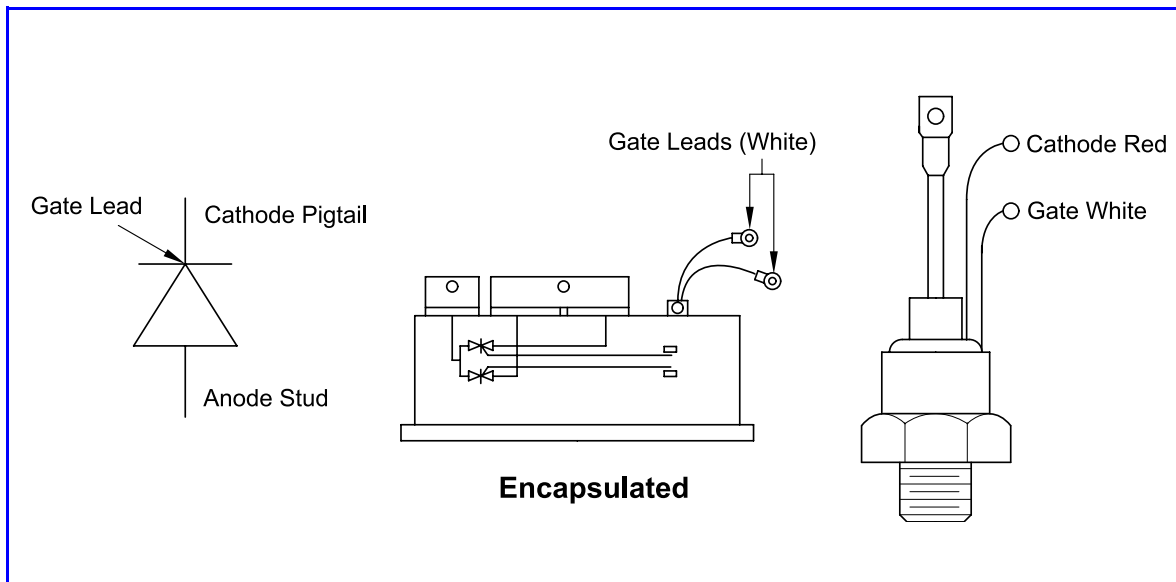

Figure 9 SCR Terminal Identification
3. Identify the SCR terminals. See **Figure 9**.